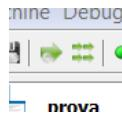
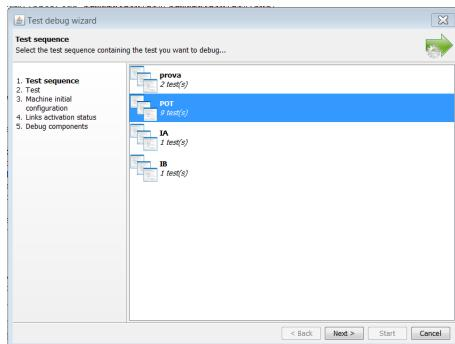
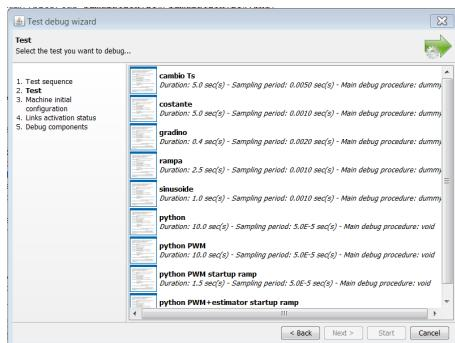

Figure 7.2: The *Launch Test* (left) and the *Launch Test Sequence* (right) buttons.
Figure 7.3: Choose a test sequence from the list and click Next
Figure 7.4: Select the test you want to execute and click Next
- From any view in μ Lab[®] : click the *Launch Test* or the *Launch Test Sequence* buttons (Figure 7.2) to show the Test Sequence selection screen (Figure 7.3). Note that pressing the *Launch Test Sequence* button causes all of the contained Tests to be run one after another, sequentially. Moreover, every test is unrelated from the others (i.e. machine states don't carry over between two consecutive tests).
- From the *Test Sequences View*: if a Test Sequence and eventually also a Test are selected in this view, click the *Launch Test* or the *Launch Test Sequence* buttons; the selection made will bypass the Test Sequence selection screen (Figure 7.3) and bypass also the Test selection screen (Figure 7.4), if also a Test is selected in this view or the *Launch Test Sequence* button has been pressed.
The simulation flow can be controlled with the buttons shown in Figure 7.2.